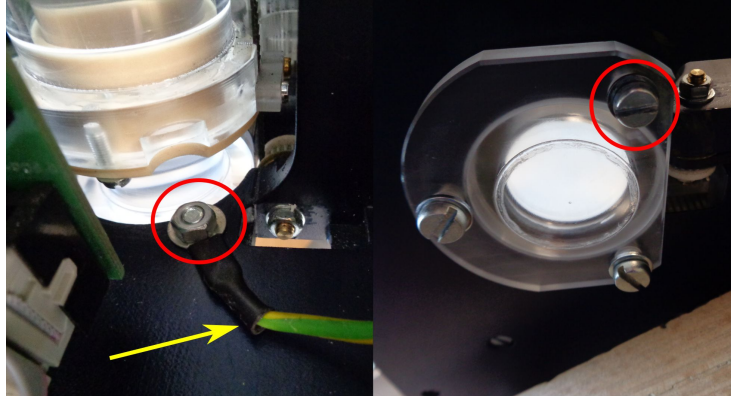

Figure 8
- Insert cylinder back to tube and fix it with three screws. Marked screw in Figure 8 must be tightened with nut. Do not forget on grounding cable.